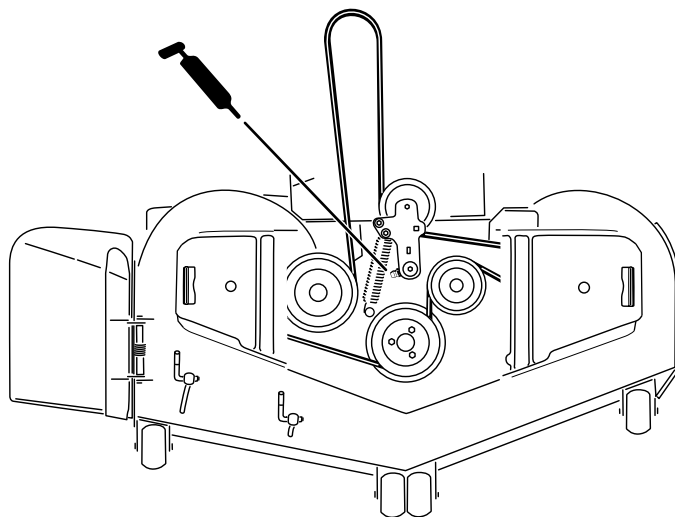

Figure 41
3. Grease the mower deck idler-pulley pivot until grease comes out the bottom (Figure 41).